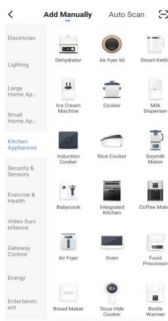

Fig. 2
3. Find the oven in the kitchen appliance and click enter , as shown in Fig.2;